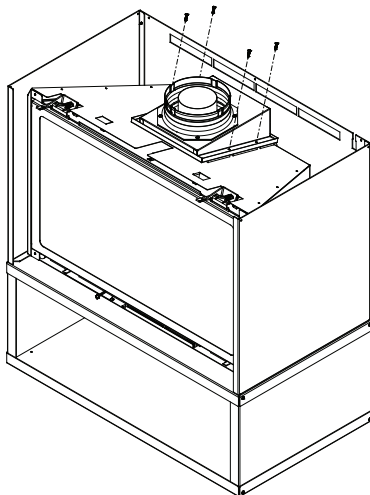

Figure 6.17
17. Install the top adapter assembly by setting on top of the adapter gasket and attaching with (4) #8 x 3/4" screws provided. See Figure 6.17.